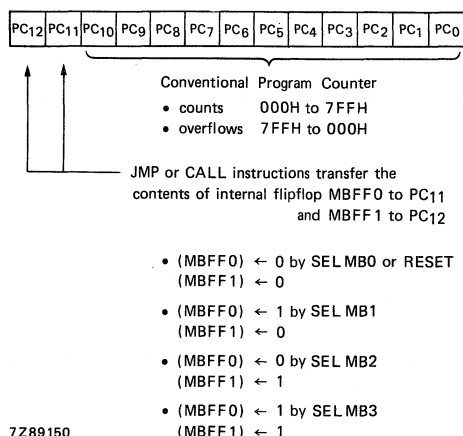

Fig. 21 Program counter.
**Program counter** (see Fig. 21)
The 13-bit program counter is able to address 8 K bytes of ROM. The arrangement of the bits is shown in Fig. 21. During an interrupt subroutine PC 11 and PC 12 are forced to logic 0. All 13 bits are saved in the stack during CALL and interrupt routines.